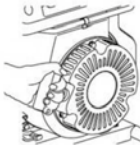

Fig. 8
4.6 Pull up the Starting Handle gently until resistance is felt, then pull it up rapidly. Put back the handle slowly to avoid damage to the starting system. Turn the key-switch to START position for E-start Models, (Figure 8)